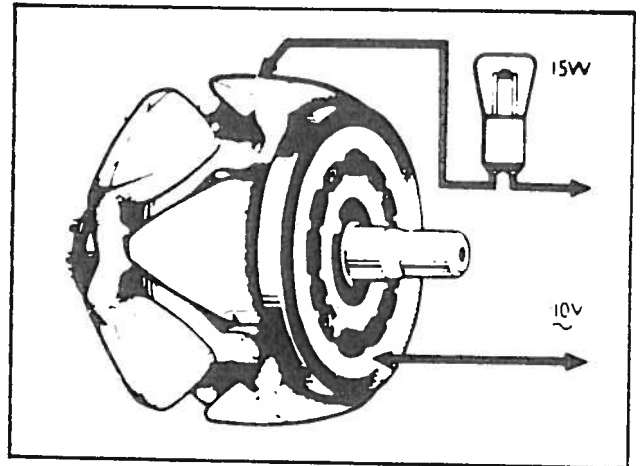

Fig. 18—Insulation Test Rotor Winding
2. Test for defective insulation between one of the slip-rings and one of the rotor poles using a 100 volt ac mains supply and a 15-watt test lamp (Fig. 18). If the lamp lights the coil is earthing and a replacement rotor/slip-ring assembly must be fitted.